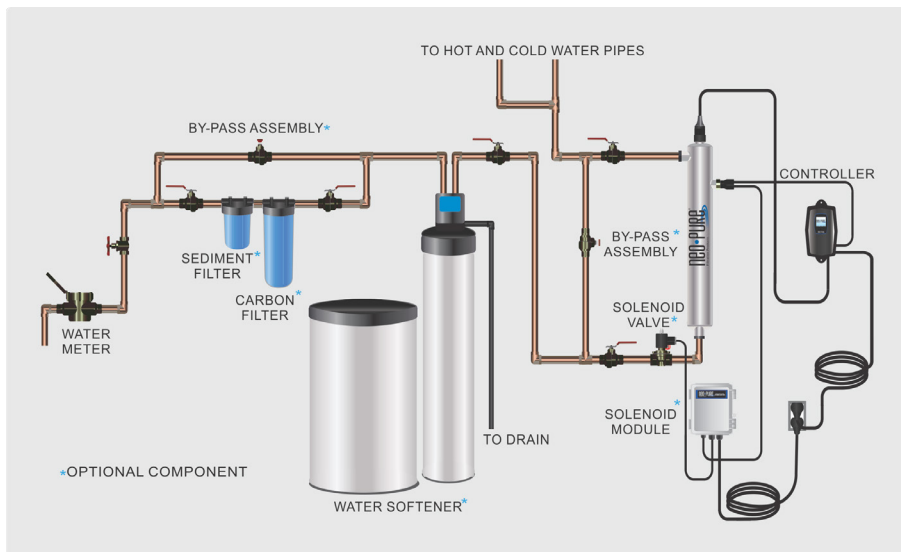

Figure 1. Recommended POE Installation Location
For Point of Entry (POE) systems, choose a location where the main cold water line is accessible. Install the system after other water treatment equipment (softener or filters), but before any branches (See Figure 1). For Point of Use (POU) systems, install the unit just before the faucet. Neo Pure recommends that a 5 micron filter be installed **before** the UV system for a final polishing step before the water is disinfected.
Step 10: Mount the controller to the wall so it is above or beside the reactor to ensure that no moisture can deposit on any of the connections (see Figure 1). Always mount